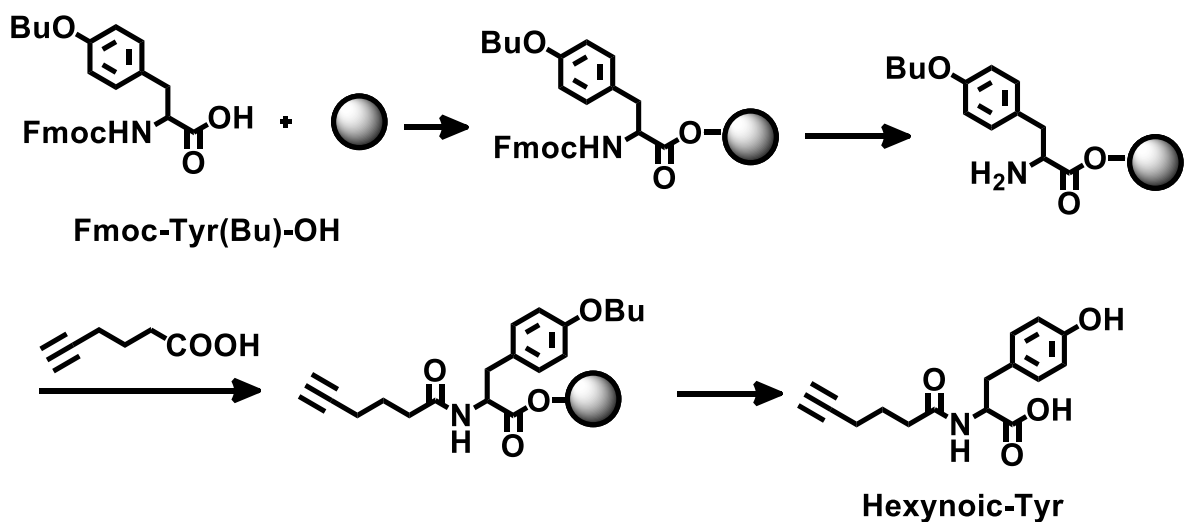

Fig. S1. Synthesis of Hexynoic-Tyr.
1. Synthesis of Tyr-C\equivCH	(Fig. S1)